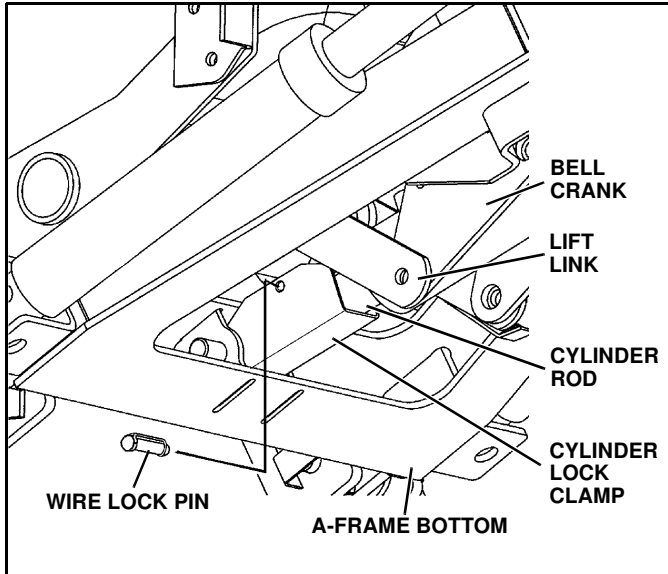

Figure 1-31
5. Position the cylinder lock clamp around the exposed (chrome) portion of the lift cylinder with the open side of the cylinder lock up. Install the pin. (See Figure 1-31)